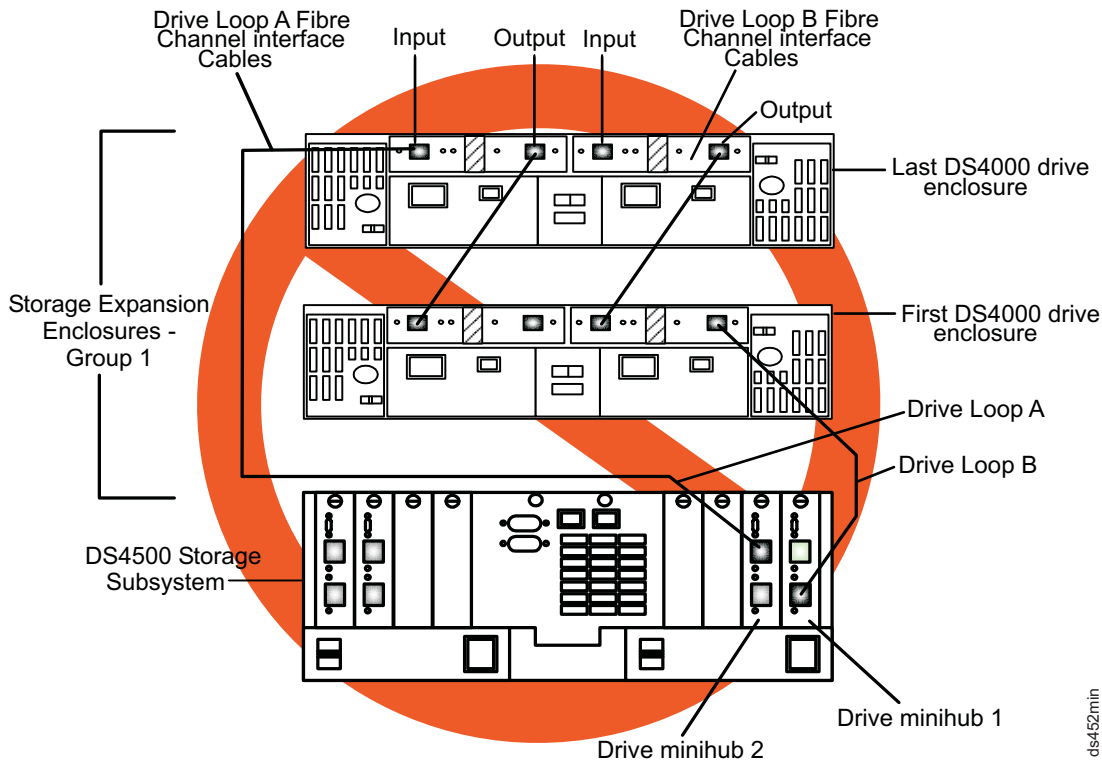

Figure 8. Redundant drive loop cabling overview with two mini hubs in slots 1 and 2 — **Not for use unless you meet the requirements in the above Note**
**Note:** If you have an existing DS4500 Storage Subsystem configuration with mini hubs in slots 1 and 2, and you do not plan to add an additional redundant drive loop, do not make any changes to the positions of your mini hubs. Figure 8 on page 10 shows a storage subsystem containing one DS4500 Storage Subsystem populated with two mini hubs and one redundant drive loop with two storage expansion enclosures, as the DS4500 was shipped previously, with mini hubs installed in mini hub slots 1 and 2. "Storage Expansion Enclosure Group 1" uses a redundant drive loop to connect to the DS4500 Storage Subsystem. Loop A and loop B make up one redundant pair of drive loops.